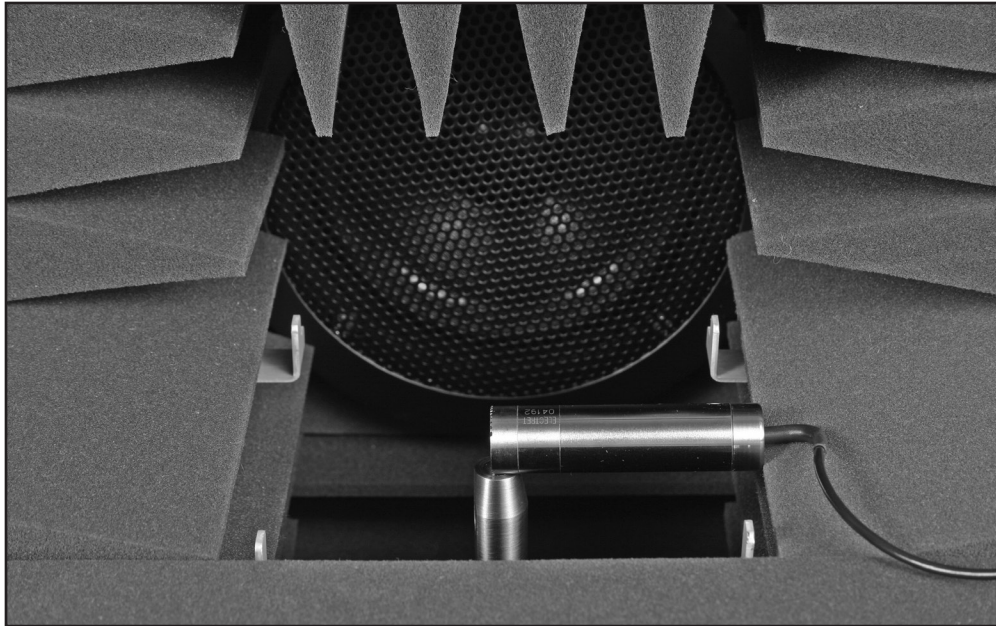

Figure 6.2: Leveling setup for the 8120 Polar Plot Chamber
2. Place the coupler microphone on top of the Rotating Shaft at a 90° angle from the speaker. The magnetic surface of the shaft will hold the microphone securely in place. See Figure 6.2.